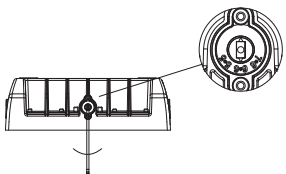

figure 7.2
2. Adjust the handle to the desired angle by turning it left and right, as shown in the picture. (figure 7.2)